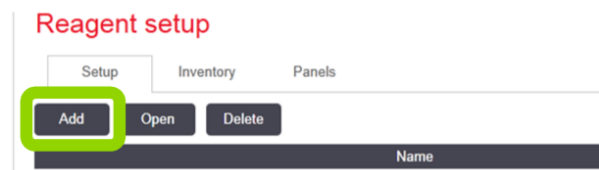

Figure 58: Add reagent button
2. From the **Setup** tab, click the **Add** button (see Figure 58).